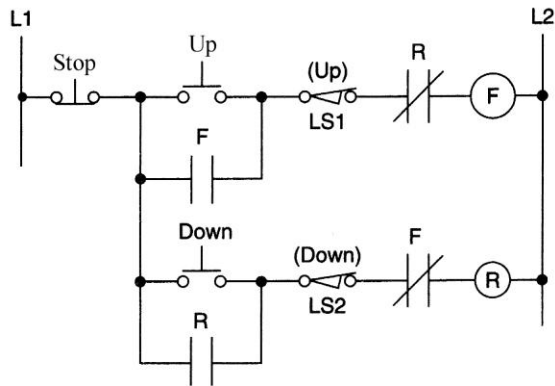

Figure 6-31 Hardwired circuit for assignment 7.
7) The hardwired electric door opener circuit in Figure 6-31 can be programmed using a PLC. Prepare an I/O connection diagram and ladder logic program for the circuit. Enter the program into the PLC, and prove its operation.